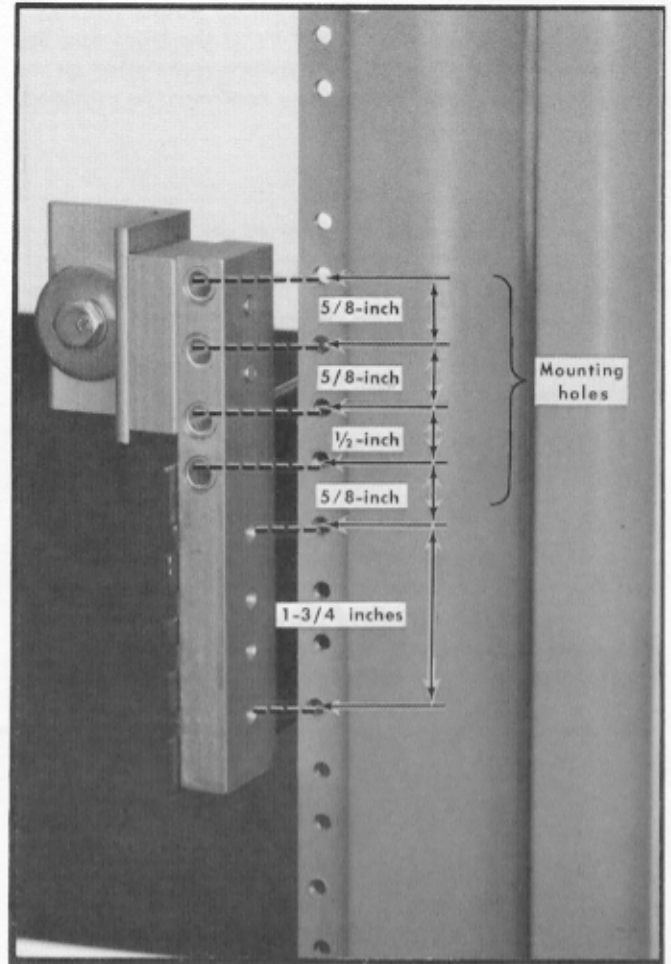

Fig. 8-9. Vertical mounting position for rear end of slide-out tracks. Left stationary section (only) is shown.
3. With the front end of each stationary section attached to the front rail, hold the track in a level position in the rack and locate the proper rear-rail mounting holes for the ruggedizing hardware (see Fig. 8-9).